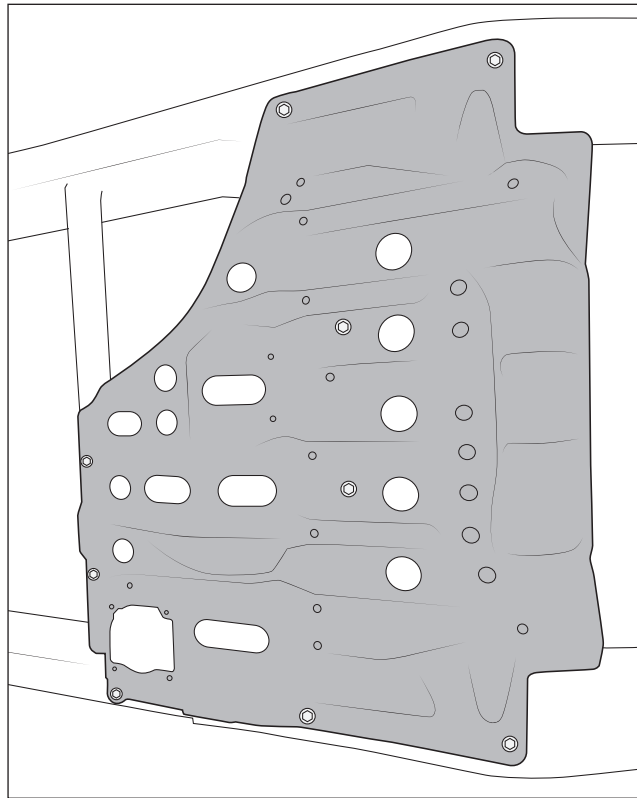

Figure 4
4. Use the supplied M10 bolts to install the skid plate onto the frame (fig. 4). Tighten to 40 ft-lbs